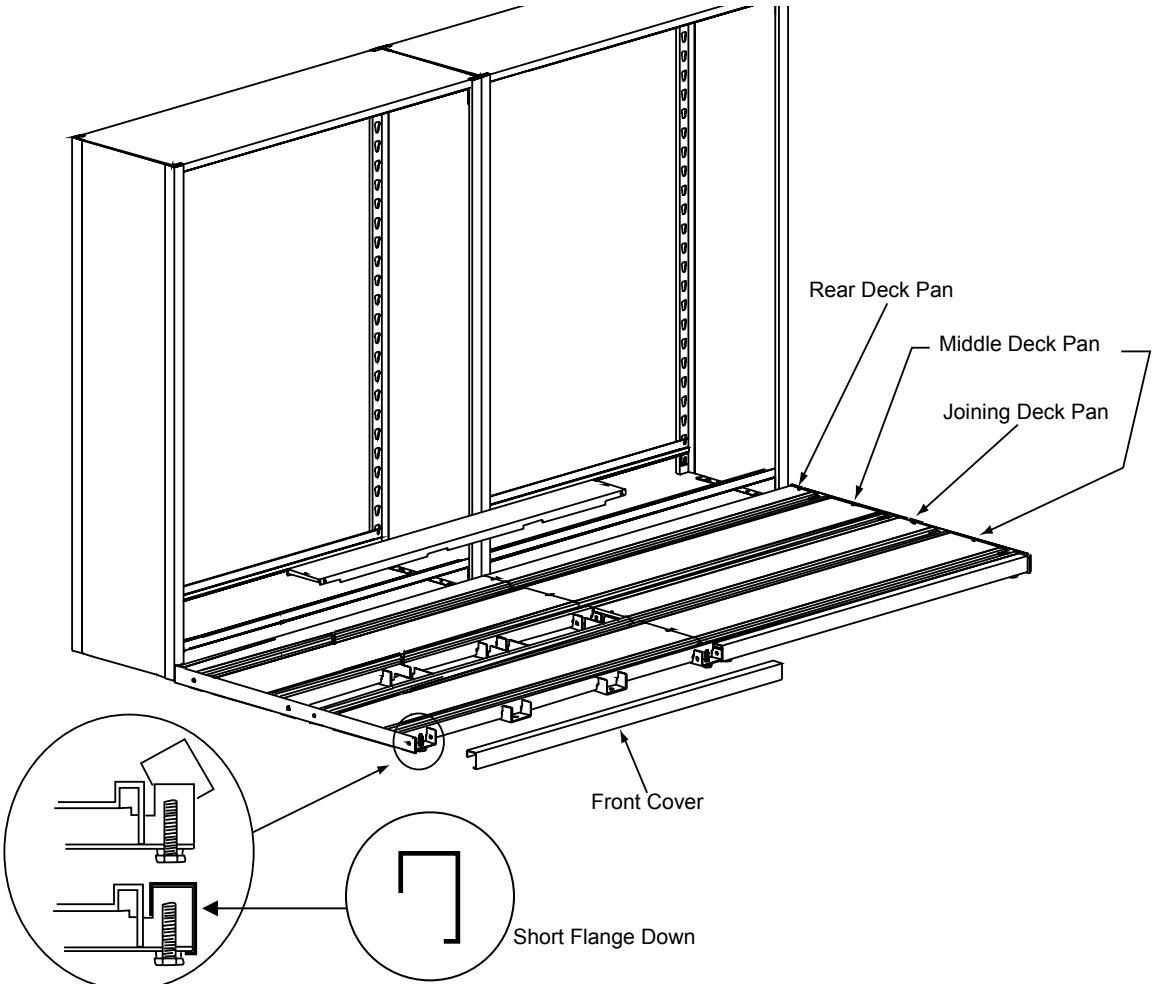

FIGURE 13
- STEP 1** Install the Rear Deck Pans, the Deck pan sections interlock with the Deck assembly. The Rear Deck Pans should be flush with the top of the Deck when properly installed. **See Figure 13.**
- STEP 2** Install the Middle Deck Pans, the Deck pan sections interlock with the Deck assembly. The Middle Deck Pans should be flush with the top of the Deck when properly installed. **See Figure 13.**
- STEP 3** Install the second row of Middle Deck Pans after the Joining Deck Pans previously installed. The Middle Deck Pans should be flush with the top of the Deck when properly installed. **See Figure 13.**
- STEP 4** Attach the Front Cover to each Deck section by snapping the Front Cover over the front Deck cross-members. Make sure that the short flange is down. **See Figure 13, Detail A.** Repeat this step for remaining Deck sections.